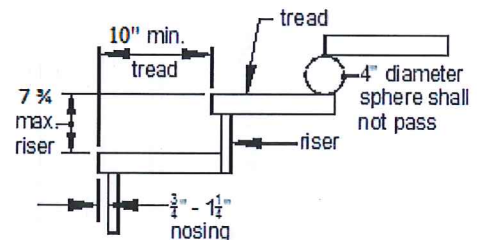

FIGURE 33: TREADS AND RISERS
- Stair geometry and opening limitations shall meet the requirements shown in FIGURE 33. Treads, risers and nosing dimensions shall not deviate at each step by more than 3/8 inch.